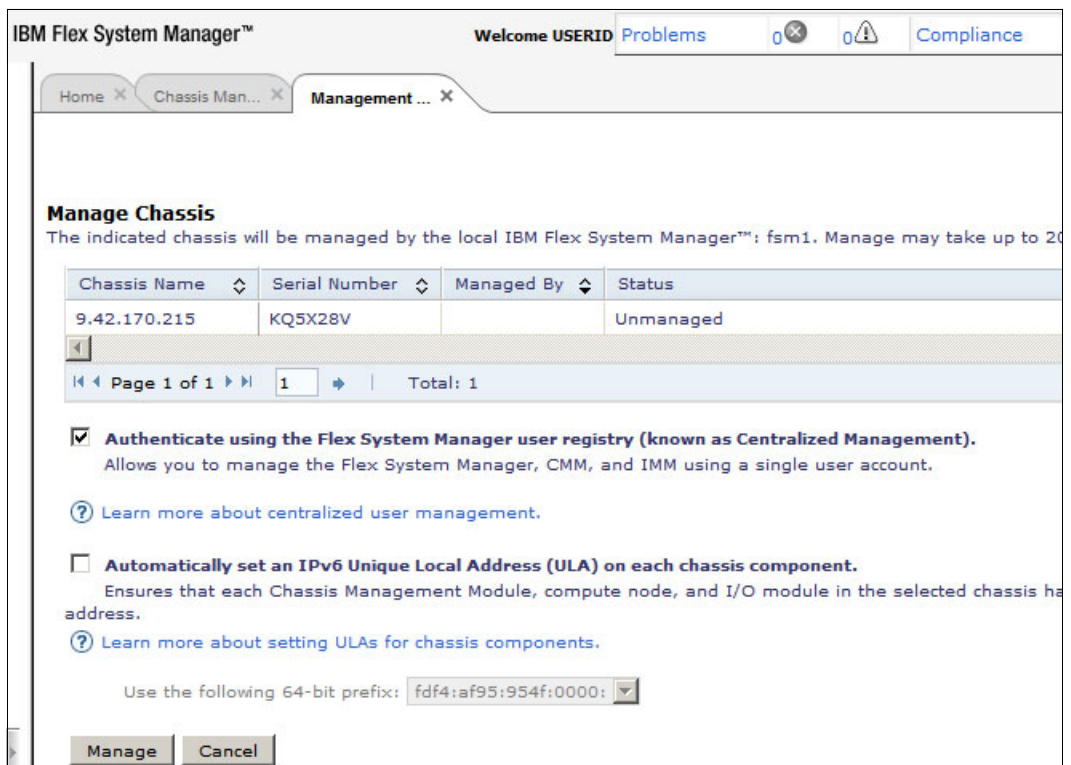

Figure 6-24 FSM Manage Chassis options
2. Select the check box for the chassis that you want to manage and click **Manage**. The Manage Chassis window opens, which lists the selected chassis as shown in Figure 6-24. An option is available to choose Centralized User Management (see “Centralized user management” on page 89). Another option allows you to automatically assign IPv6 Unique Local Addresses (ULAs) to the chassis components. Click **Manage**.